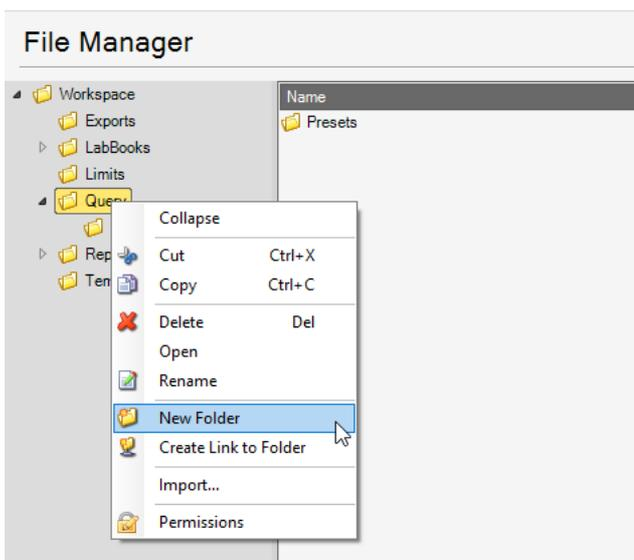

Figure 4-58. Shortcut menu File Manager subfolder
1. From the File Manager page, right-click the **LabBooks** or **Templates** folder to create a new folder, see Figure 4-58.